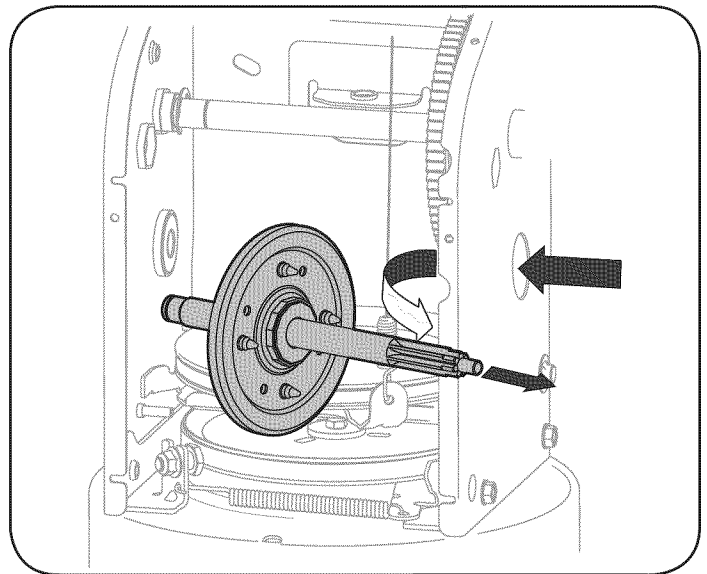

Figure 31
6. Carefully position the hex shaft to the left then downward. See Figure 31.